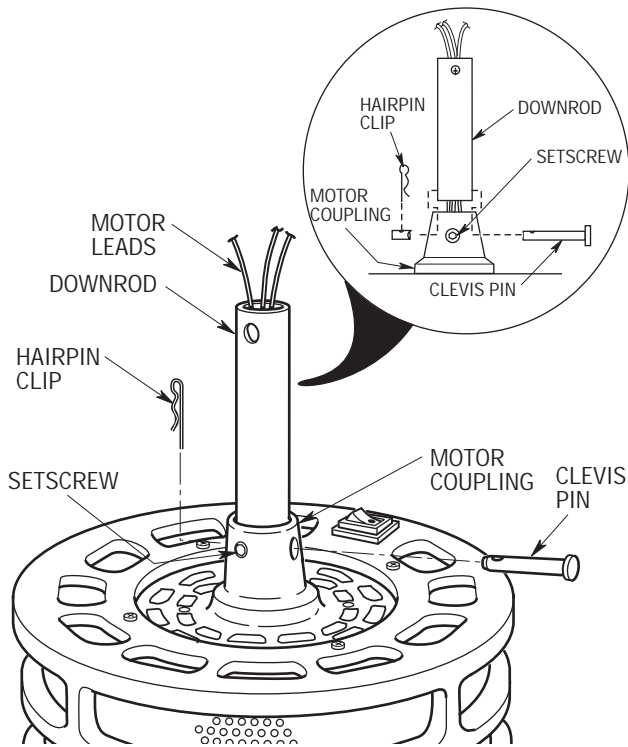

Figure 2
- 3. Separate, untwist and unkink the three motor leads. Route the motor leads through the downrod and seat the downrod in the motor coupling (Figure 2).
- 4. Align the clevis pin holes in the downrod with the holes in the motor coupling. Install the clevis pin and secure with the hairpin clip (Figure 2). (Pin and clip are supplied in loose parts bag.) The clevis pin must go through the holes in the motor coupling and the holes in the downrod. Push the straight leg of the hairpin clip through the hole near the end of the clevis pin until the curved portion of the hairpin clip snaps around the clevis pin. The hairpin clip must be properly installed to prevent the clevis pin from working loose. Pull the hanger ball to make sure the clevis pin is properly installed.
It is critical that the clevis pin in the motor coupling is properly installed and the setscrews securely tightened. Failure to verify that the pin and setscrews are properly installed (as shown in Figure 2) could result in the fan falling.
- 5. Install the setscrew (supplied) in the motor coupling (Figure 2). While pulling up on the downrod, tighten the setscrew using the setscrew wrench (supplied).